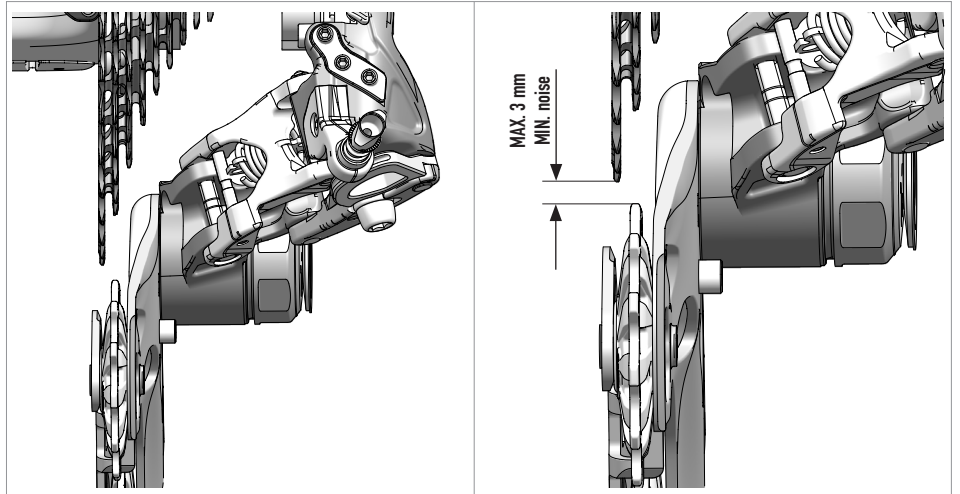

Fig.21
- The upper wheel must be at the correct distance from the largest sprocket (**Fig.21**).